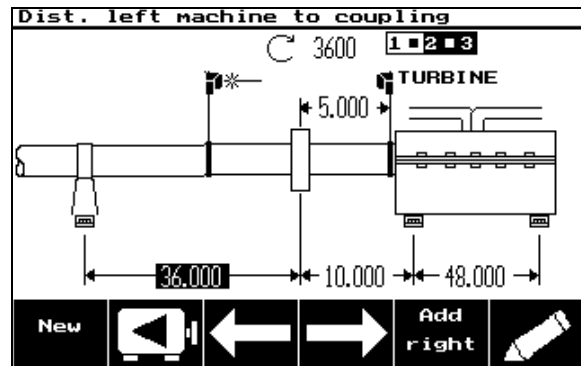

Figure 3
- Note that the icon  appears at the top of the Dimensions screen (see Figure 3), indicating that you are in the Dimensions screen for Machines 2 and 3. Enter the distance from the foot of machine 2 to the right coupling equal to the spacer length.